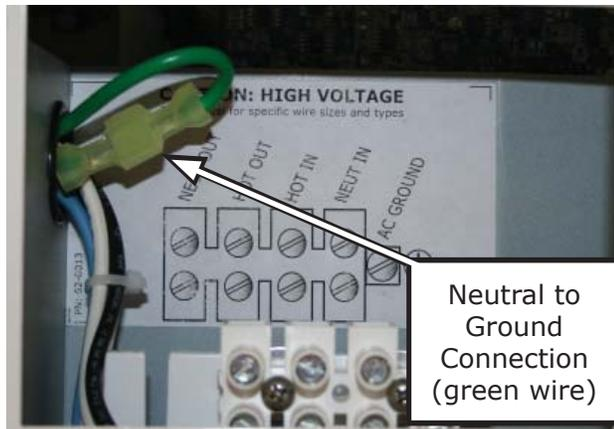

Figure 2-16, Disconnecting the Neutral to Ground Connection
When AC on the boat is being supplied by shorepower, the onboard neutral should be connected to safety ground on the dock. Consequently, neutral and safety ground should not be connected anywhere on the boat when shorepower is present. When AC on the boat is being supplied by the MS-E Series inverter, the inverter's output neutral is connected to safety ground through an internal relay using its neutral to ground connection (see Figure 2-16).
2. Look inside and locate the green wire with the insulated connector at the top of the AC wiring compartment; see Figure 2-16. This insulated connector connects the neutral and ground inside the inverter.